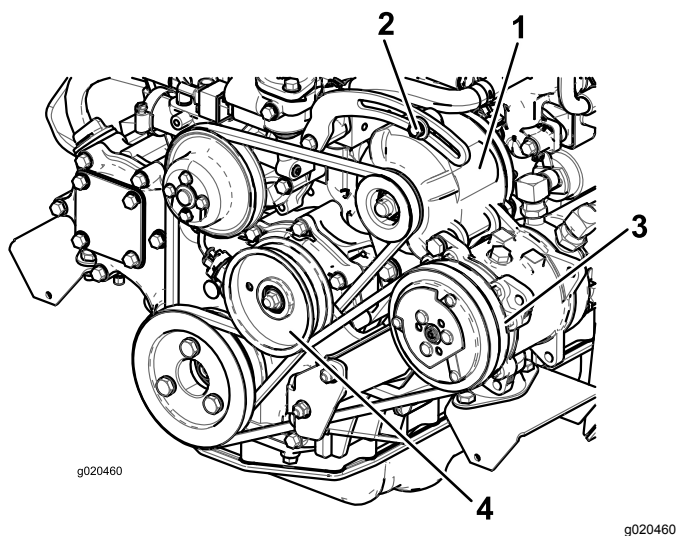

Figure 113
If the deflection is not 10 mm (3/8 inch), loosen the alternator-mounting bolts (Figure 113).
Check the condition and tension of the belt (Figure 113) after every 100 operating hours.
2. If the deflection is not 10 mm (3/8 inch), loosen the idler pulley mounting bolt (Figure 113). Increase or decrease the compressor belt tension and tighten the bolt. Check the deflection of the belt again to ensure that the tension is correct.